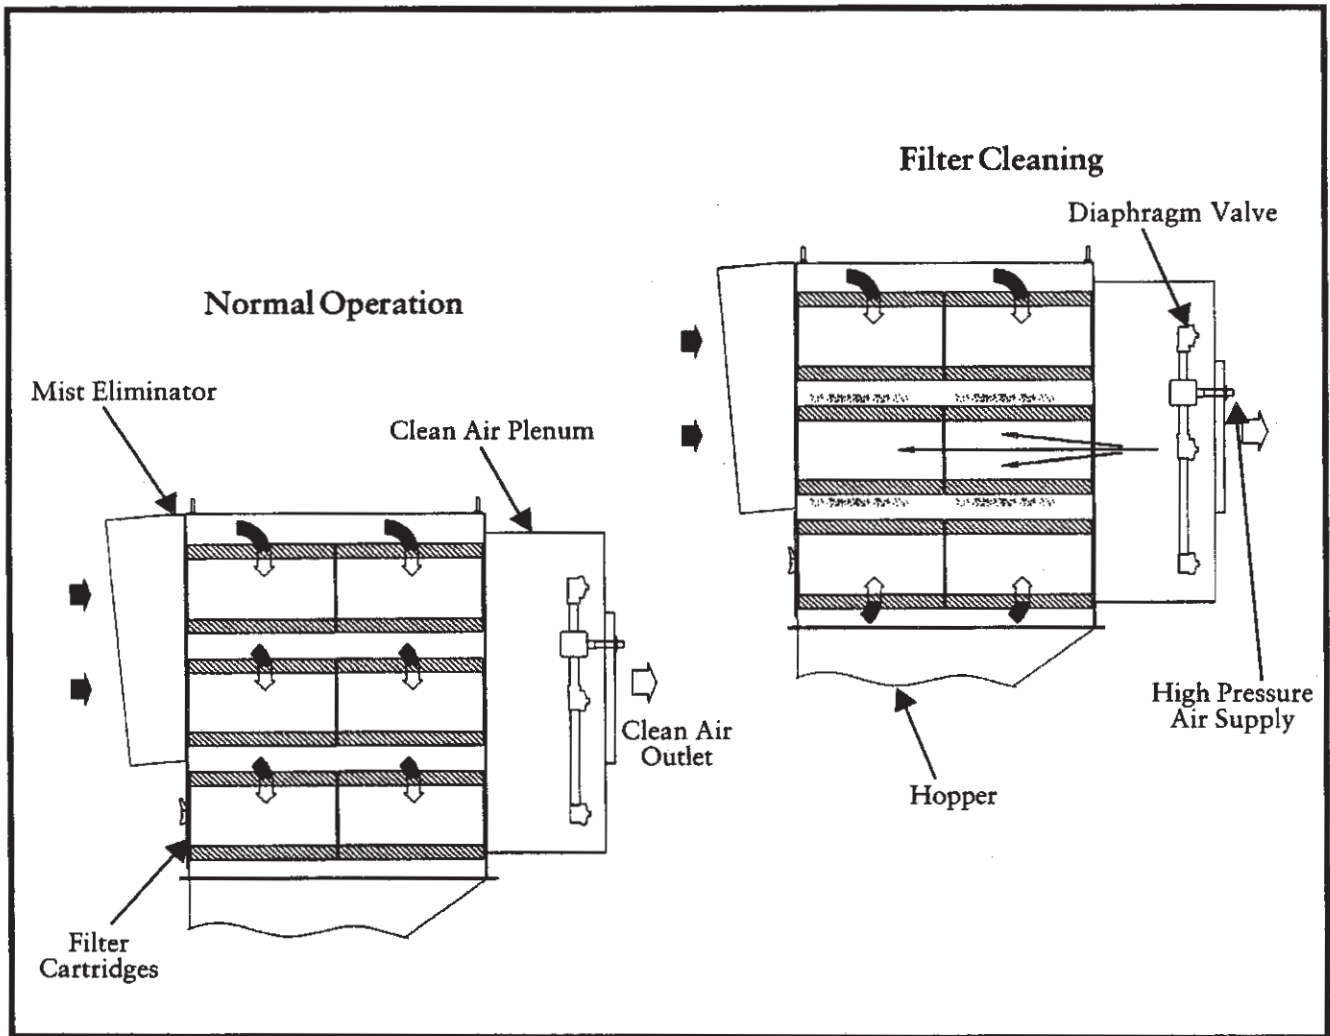

Figure 1
1.2 Filter Cleaning (See Figure 1 Operational Schematic)